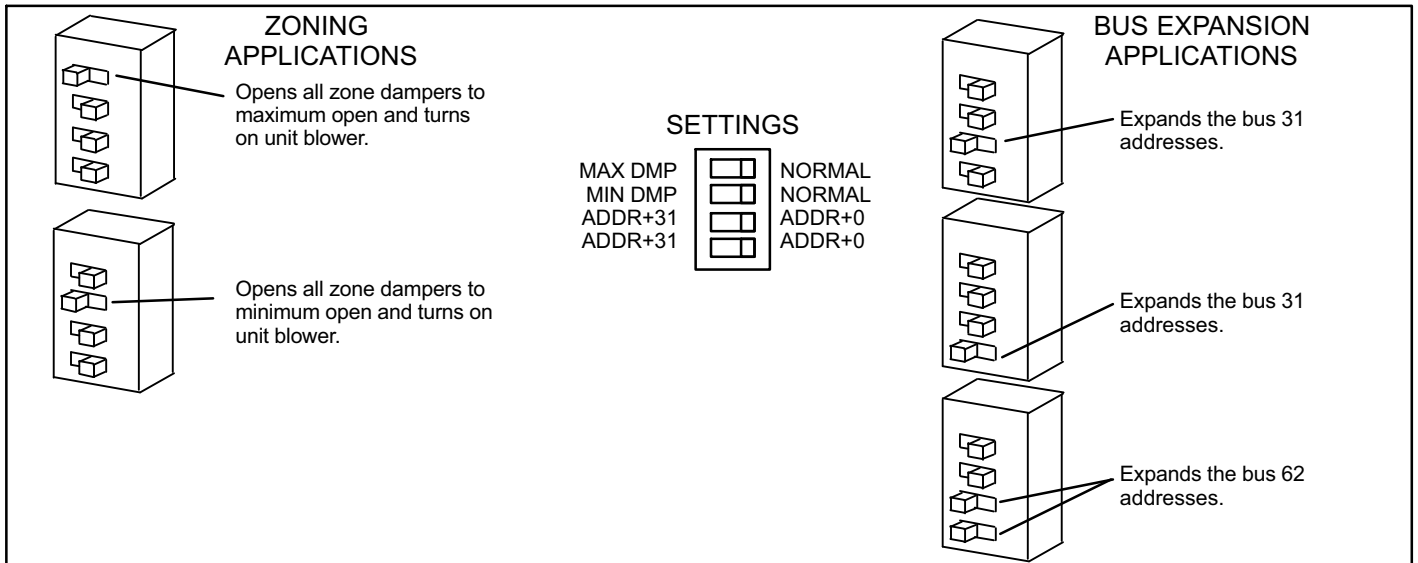

Figure 11. Zone Link SW1 DIP Switch (A148)
1. Set SW1 DIP switch to **MAX DMP** to open all dampers and bring on the unit blower. See figure 11. Units equipped with an unit controller will operate to maintain a default 1" w.c. static pressure setpoint. Units equipped with an NTC may require adjustment of the NTC Bypass Controller adjustment knob to meet design static pressure.